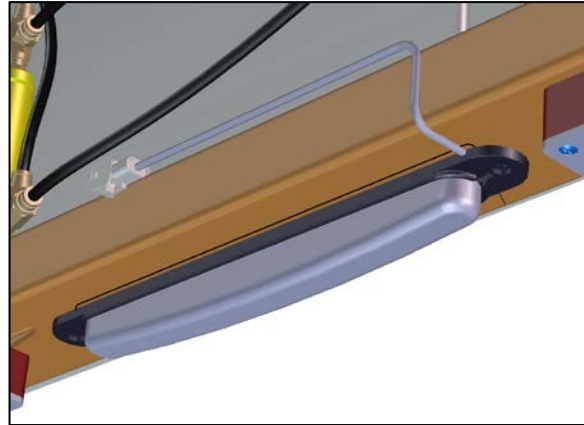

Figure 29
45. Center the entrance door light (Figure 29) with the mark made in step 41.
46. Mark the position of the holes to be drill through the metal structure (Figure 29). These holes will be used to support the light with screws.
48. Install light #830008 with two screws #500854 (item 1, Figure 29).